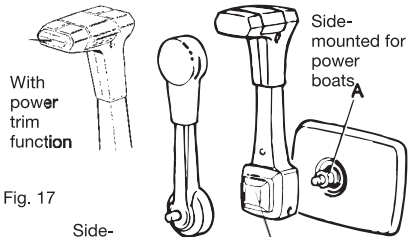

Fig. 17
- Grease the shaft splines(A fig. 17) sparingly and install the lever.
- Move the lever to engaged gear position. Push the neutral position button (B fig. 17 & 18) firmly in place.